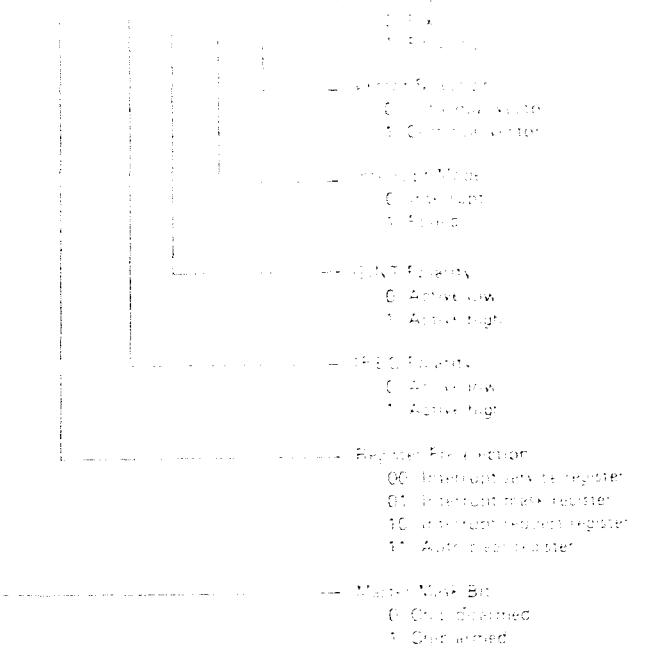

Figure 2. Mode Register Bit Assignments.
**Mode Register:** The 8-bit Mode register controls the operating options of the Am9519A. Figure 2 shows the bit assignments for the Mode register. The five low order mode bits (0 through 4) are loaded in parallel by command. Bits 5, 6 and 7 are controlled by separate commands. (See Figure 4.) The Mode register cannot be read out directly to the data bus, but Mode bits 0, 2 and 7 are available as part of the Status register.
Mode bit 0 specifies the rotating/fixed priority mode (see Figure 2). In the fixed mode, priority is assigned to the request inputs based upon their physical location at the